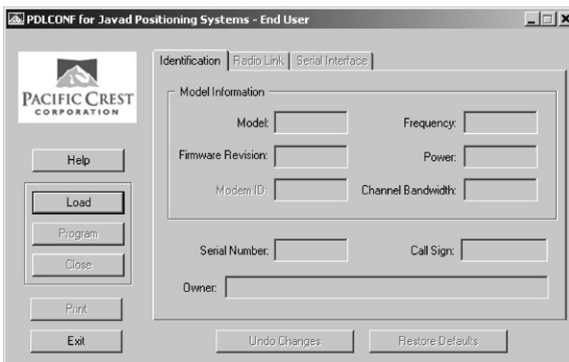

Figure 2-21. PDL Radio Configuration Main Screen
5. Run the PDL Radio Configuration Program (pdlconf.exe) from Pacific Crest. Make sure you have the latest version (2.10 or higher). This software is also available at www.paccrst.com (Figure 2-21).